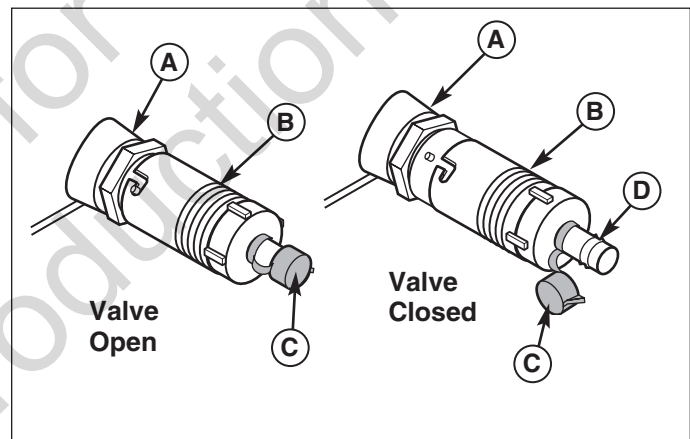

Figure 23. Oil Drain Valve
3. Wipe oil drain valve (B, Figure 23) and cover (C) with paper towel or rag.